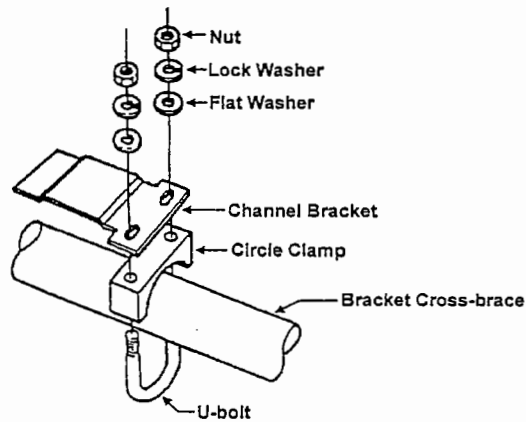

Figure 13
Slide the channel bracket into the bottom channel of the shot clock module as shown in Fig. 13 on the next page.
- Step 6** Slide U-bolt into the circle clamp holes and then into the channel bracket's holes, see Fig. 13.
- Step 7** Position flat washer and lock washer as indicated in Fig. 13.